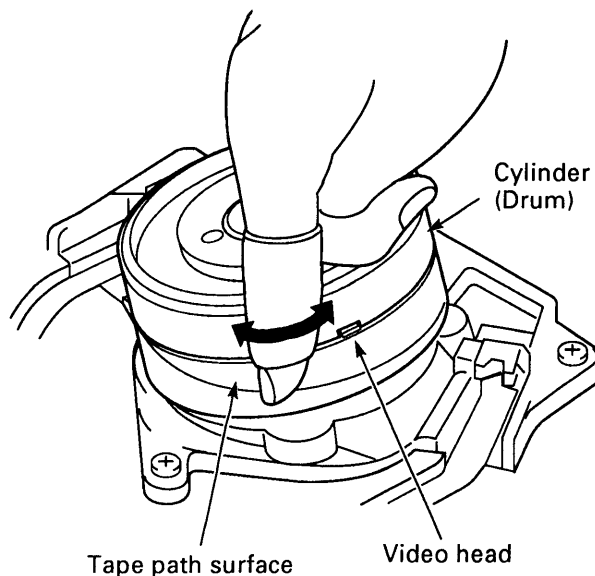

Fig.1-1-1
1. Cylinder (Drum) (See Fig.1-1-1)